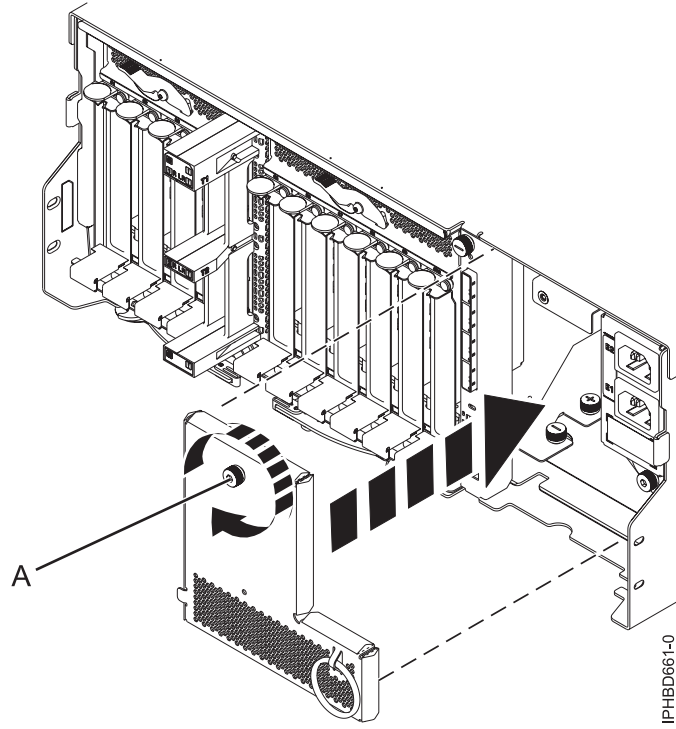

Figure 29. Replacing an input power distribution assembly cover
- Replace the input power distribution assembly cover, and then tighten the thumbscrew **(A)** as shown in Figure 29 on page 29.